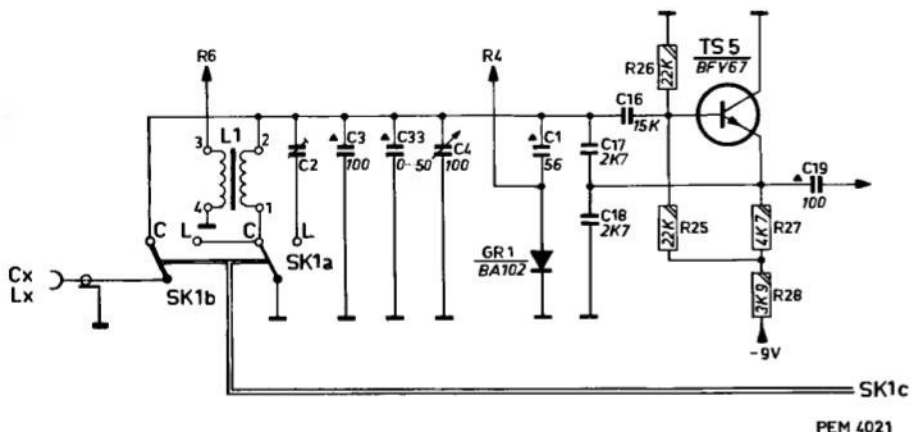

Fig. 5. Variable oscillator
A. VARIABLE OSCILLATOR (Fig. 5)
Dependent on the switch position shown in Fig. 5, an externally connected capacitance C_x detunes the resonant circuit towards the lower frequencies.